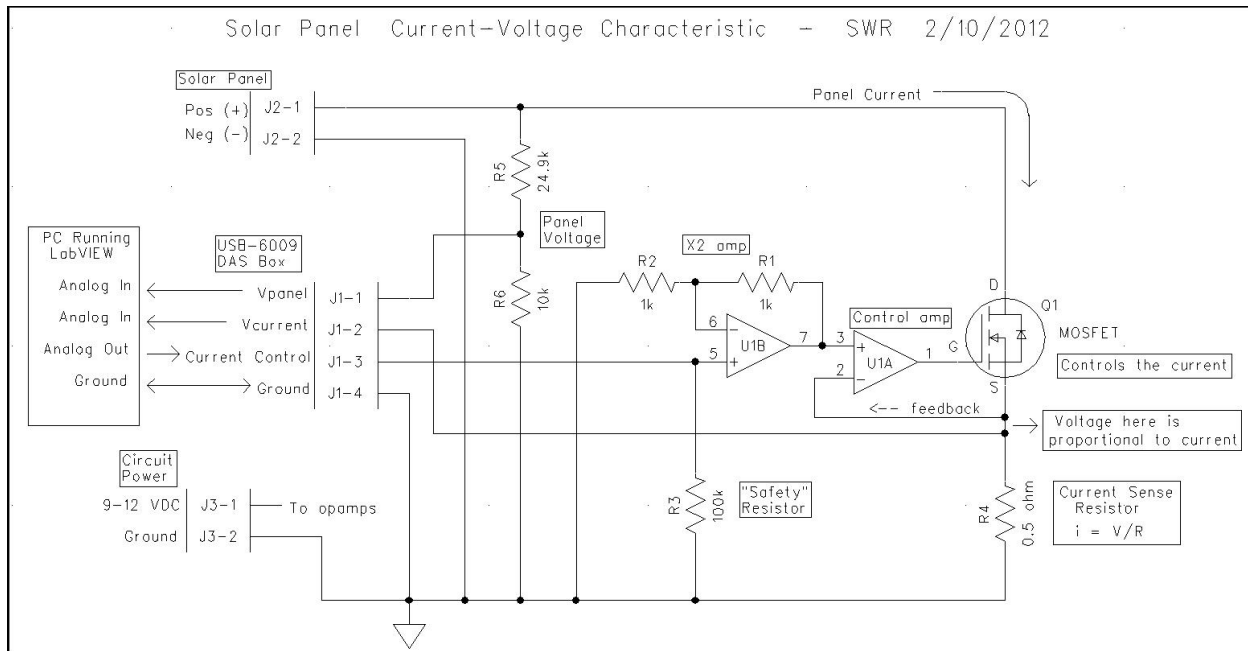

Figure 3. Control/measurement circuit.
R-Sense (ohms): *Normally not changed from default.* This is the actual measured value of the current-sense resistor (R4 figure 3). This is not changed unless you replace the current sense resistor.
**Control Circuit:** The control circuit (Figure 3) is used to control the current drawn from the solar panel, and to condition the current and voltage signals produced during the measurements. The circuit draws about 8 milliamps and can be powered by a 9-volt battery or by any DC voltage typically in the 9 to 12 volt range. Referring to Figure 3 there are three connectors for the circuit. The J1 connector is from the USB-6009 DAS. In J1, in addition to the ground connection there are two analog outputs from the circuit (panel voltage and panel current) plus the analog control voltage from the DAS to the circuit. The J2 connector is on a screw terminal strip and connects to the solar panel. The positive (+) and negative (-) terminals are labeled, and the polarity of the solar panel must be observed. Connector J3 is the battery power for the circuit.
- A3: If you have a multimeter then yes, you can just clip the multimeter leads to the panel and directly measure the voltage. But we are using a data acquisition system, and the DAS is limited to analog inputs in the -10 to +10 volt range. Some solar panels produce 20-30 volts, or more. In order to accommodate these higher voltages we need to reduce (divide down) the voltage going into the DAS to a range we can measure. The software can then compensate for the voltage reduction by multiplying by the voltage divider ratio shown on the vi front panel. The ratio =  $(R5+R6)/R6$ . See figure 3.